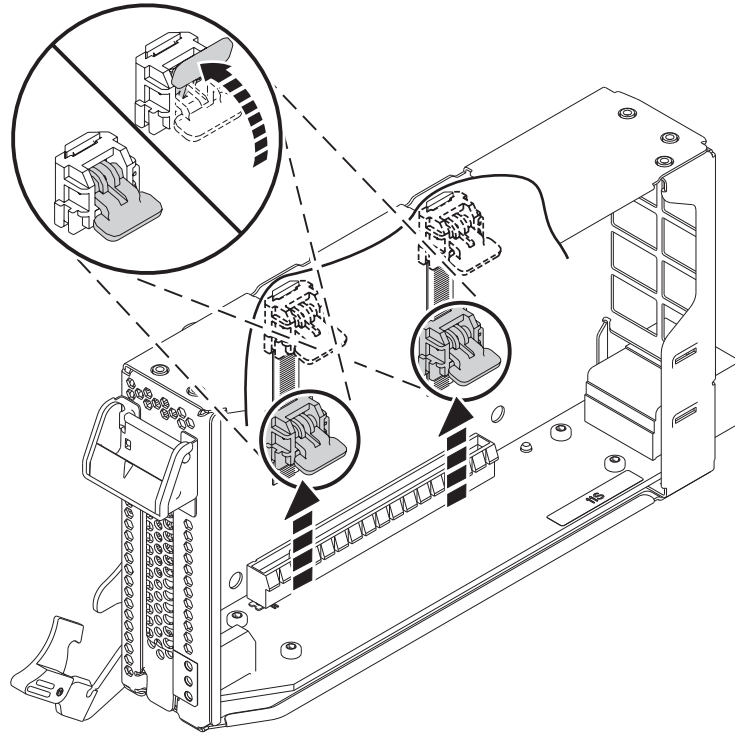

Figure 4. Unlocking the cassette ratchets
- a. Unlock both the cassette ratchets by rotating them, as shown in Figure 4 on page 5.
- b. Push up the cassette ratchets to the top edge of the cassette, as shown in Figure 4 on page 5.